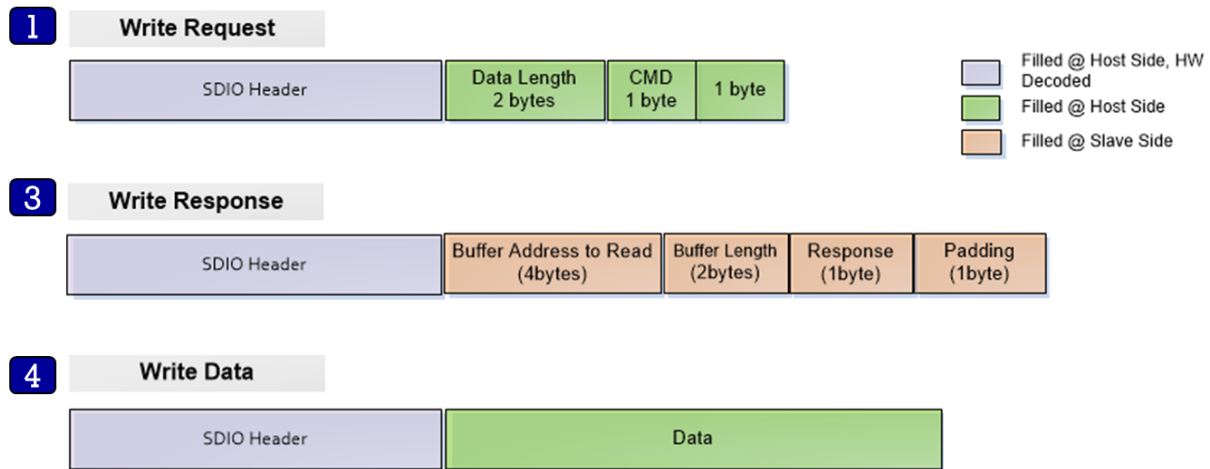

Figure 14. Structure
4. The Host sends data to address (BUFF\_ADDR) which is received from the Slave in the Write Response message (green rectangle in Figure 14).